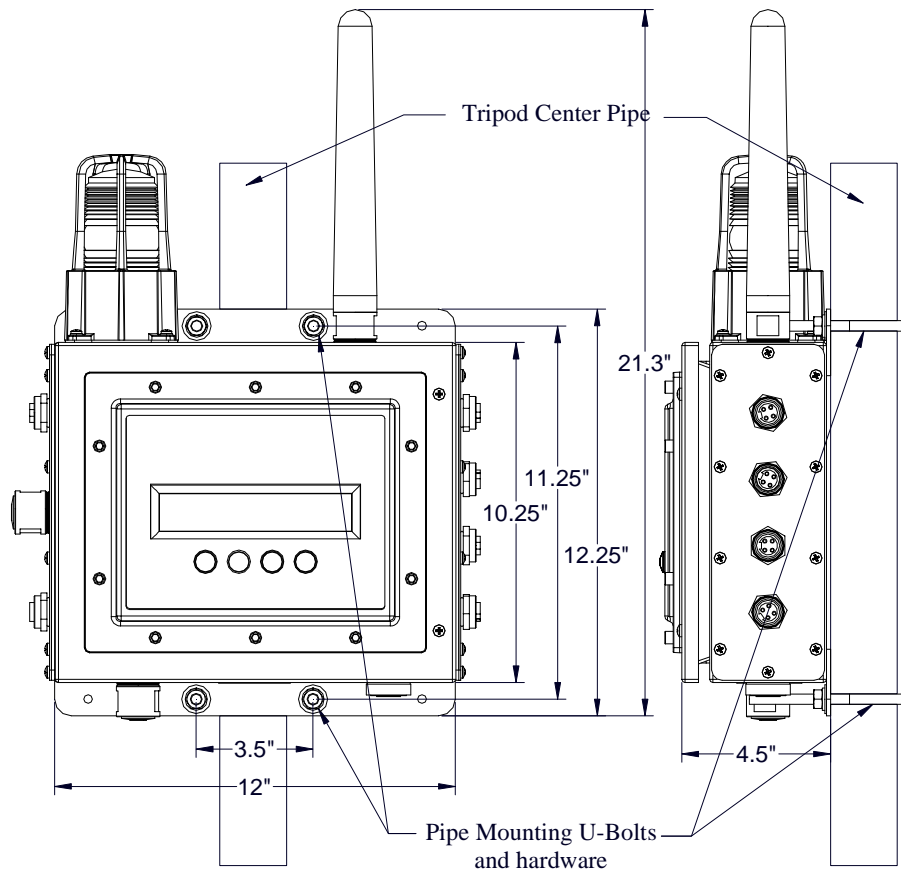

Figure 12 Mount CXT on Tripod
2. Mount the CXT to the center pipe using the supplied U-bolts in accordance with Figure 12. The height position should be about 4-5 feet maximum to minimize tip-over potential. The U-bolts should be thoroughly tightened such that there is no vertical slide of the controller up or down the tripod center pipe. If it slides it may be a safety issue related to personnel injury.